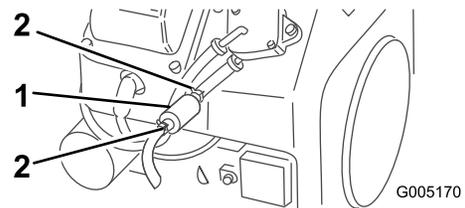

Figure 30
4. Squeeze the ends of the hose clamps together and slide them away from the filter (Figure 30).
5. Place a drain pan under the fuel lines to catch any leaks, then remove the filter from the fuel lines (Figure 30).